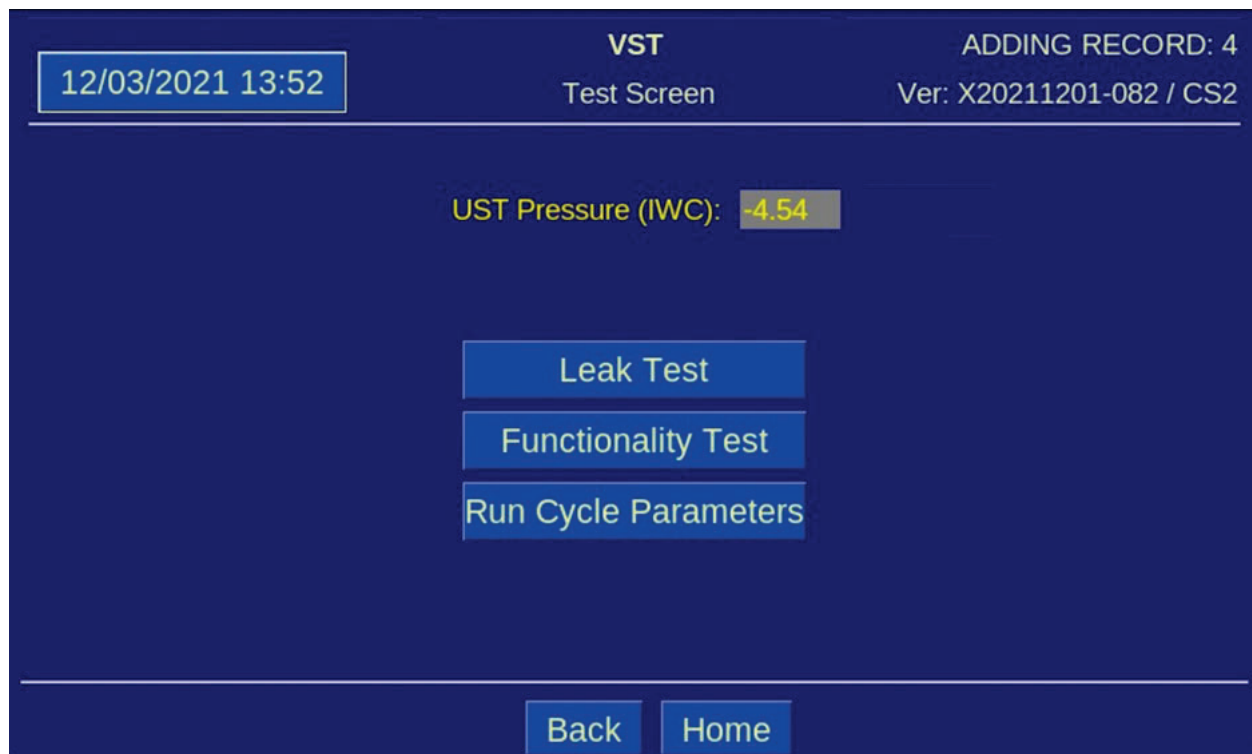

Figure 8-8: Tests Screen
- f) Push the Run Tests button. Then push the Functionality Test button. **See Figure 8-8.** This button runs the GREEN MACHINE which allows you to check the voltage on each of the terminals of the solid-state relay. See the table below for expected voltage values of each terminal.